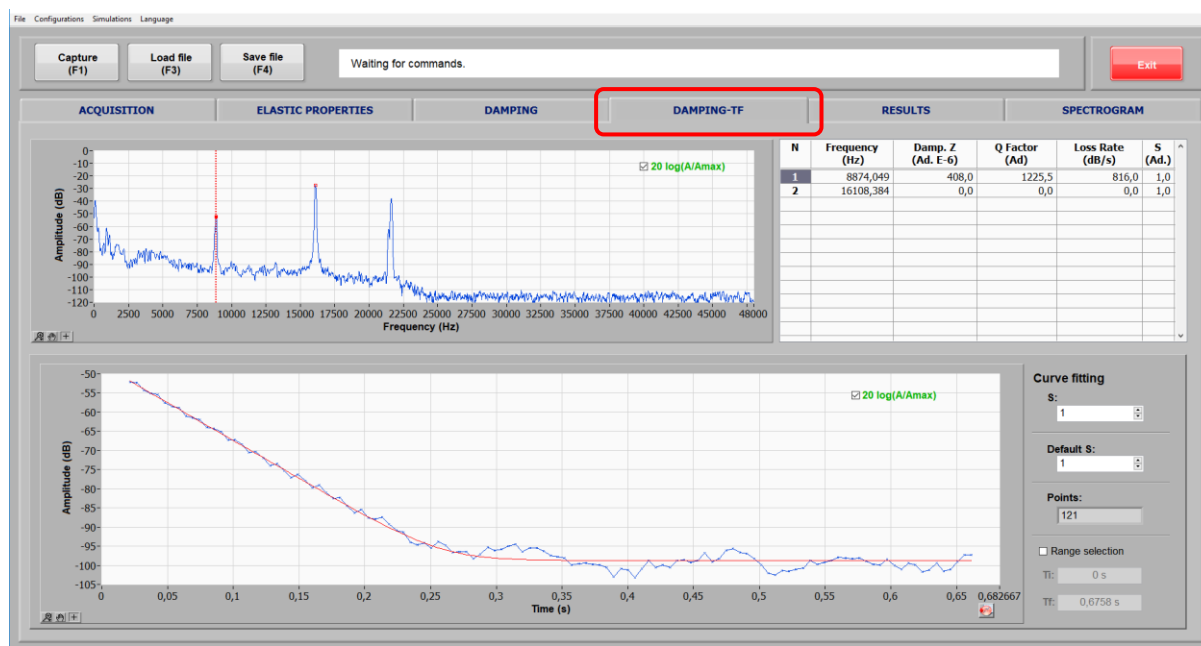

Figure 67 - Sonelastic® Software screen for damping calculation in the time-frequency (TF) domain.
Damping calculation tab combining time (T) and frequency (F) domain (Fig. 67):